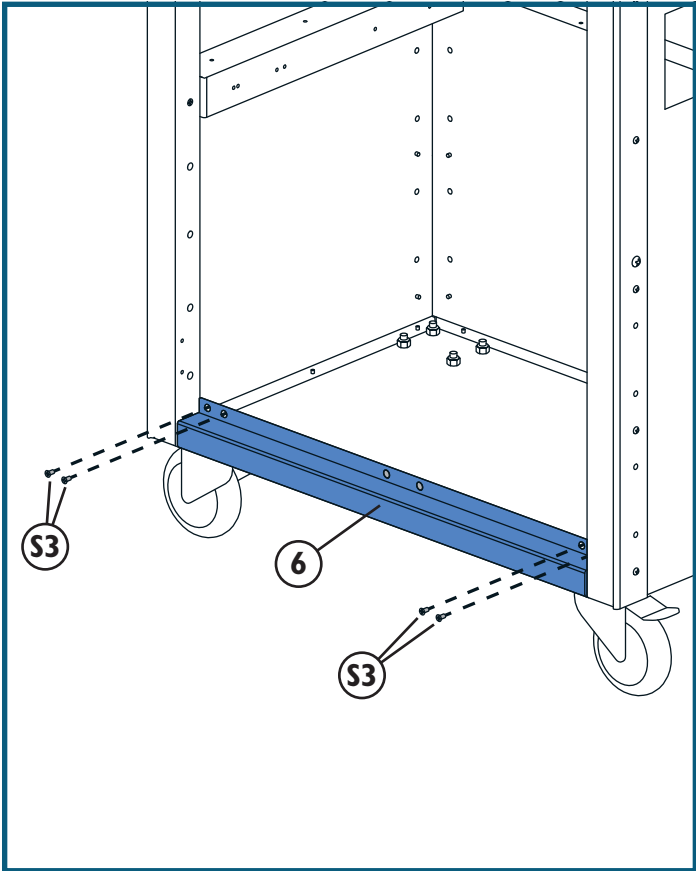

Fig. 9
10. Attach the bottom Front Rail (6) to the tabs at the bottom of the Left and Right Front Corner Brackets (9 and 11) with two M4 x 3/8" Flat-Head Self-Tapping Screws (S3) on each side. Make sure to use flat-head screws. **Fig. 9.**